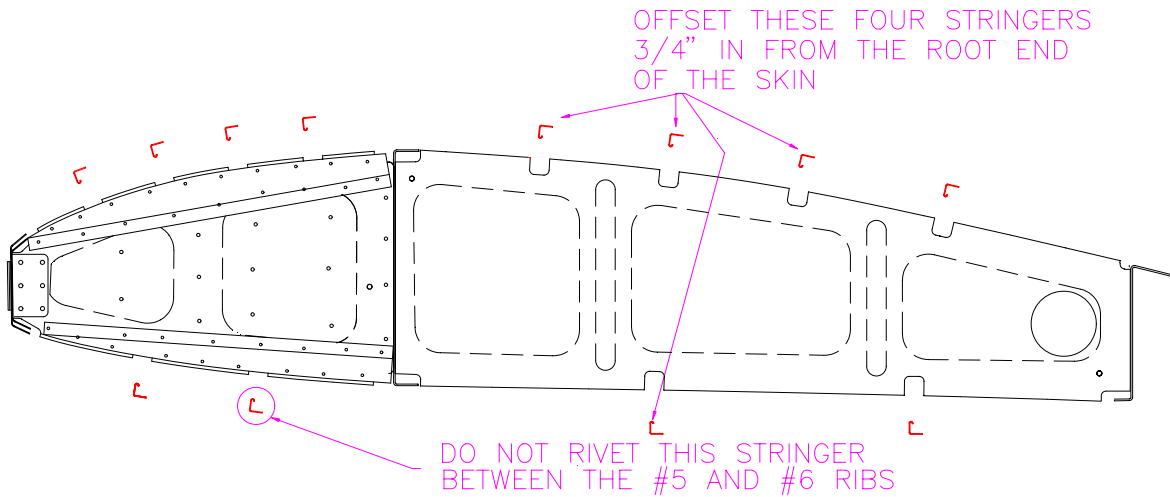

Figure 8.15.3
2) Draw a line down the center of a Stringer. Slide the Stringer between the plywood strips. Position a skin over the Stringer. When the line is visible through the center of the prepunched holes drill each hole out to #40. Use plenty of clecos. **DO NOT** drill out to #30 at this time. Figure 58. See Figure 8.15.3 for Stringer orientations.
4) On the Leading Edge Skins you can at this time drill all the Stringers to #40 and then to #30. Disassemble and debur the Leading Edge Skins and the Stringers. After chromating the mating surfaces, rivet together with 1/8” avex rivets (RV-1410). Do not rivet the bottom Leading Edge Stringer between the #5 and #6 ribs. Figure 8.15.3.